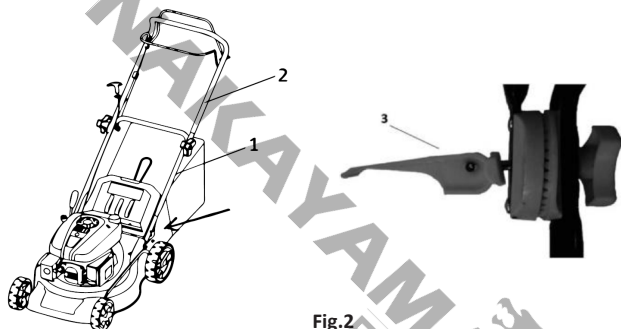

Fig.2
- Insert the lower part of the handle (Fig. 2 - item 1) into the corresponding hole on the lawn mower (see arrow) and secure it in place with 4 screws - two screws on each side of the handle.
- Connect the upper part of the handle (Fig. 2 - point 2) to the lower part of the handle using the screws provided, with the quick-release fastener on the nuts (Fig. 2 - point 3).